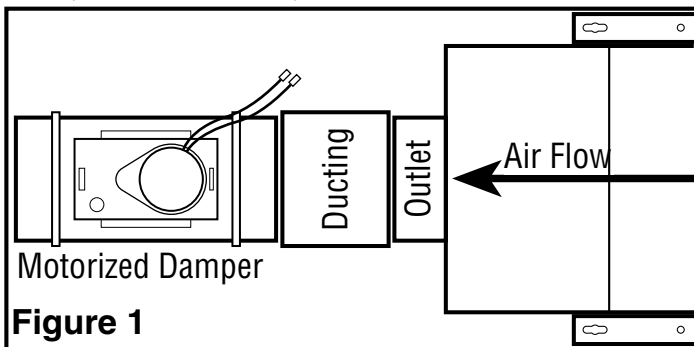

Figure 1
1. Install the motorized damper to the outlet (discharge) side of the unit using 6" rigid ducting and seal with appropriately rated tape. Use screws or suitable clamps to secure in place. If any additional ducting will be installed to the outlet side of the motorized damper (as with an inline installation) repeat the same procedure as above (Figure 1).